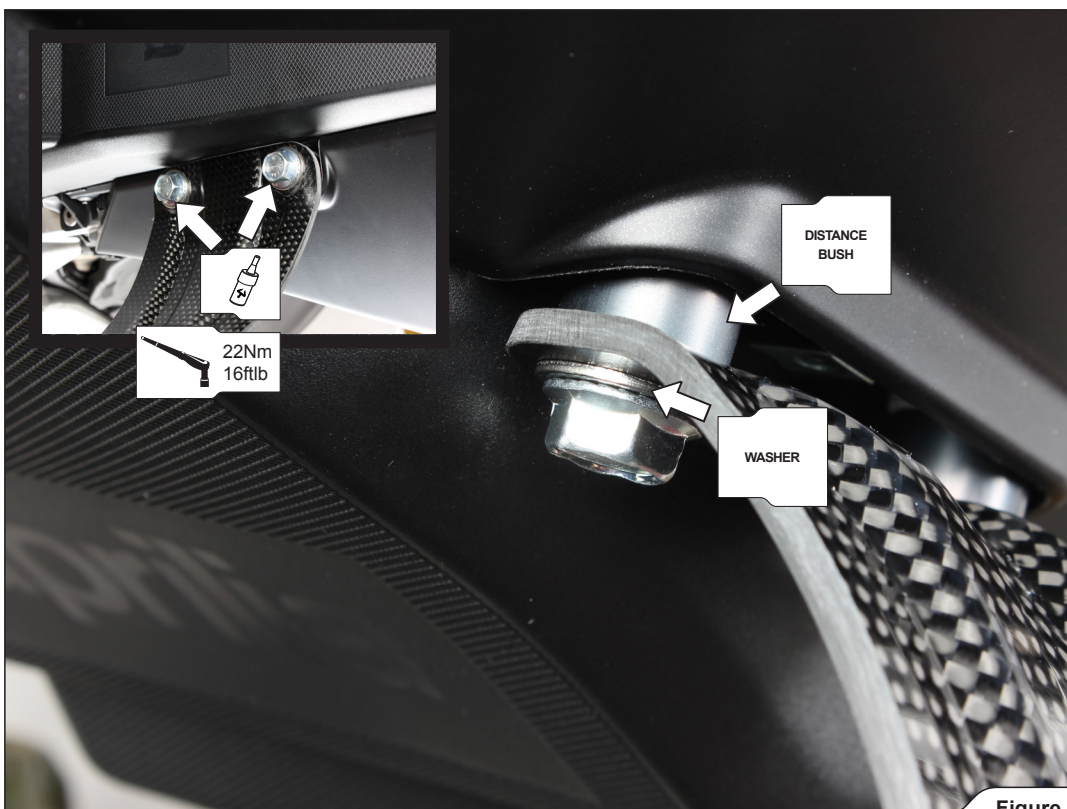

Figure 2
1. Install the Carbon Fiber Bracket onto the right side of the sub frame, using bolts, washers and Aluminium distance bushes from Akrapović installation kit (**Figure 2**).